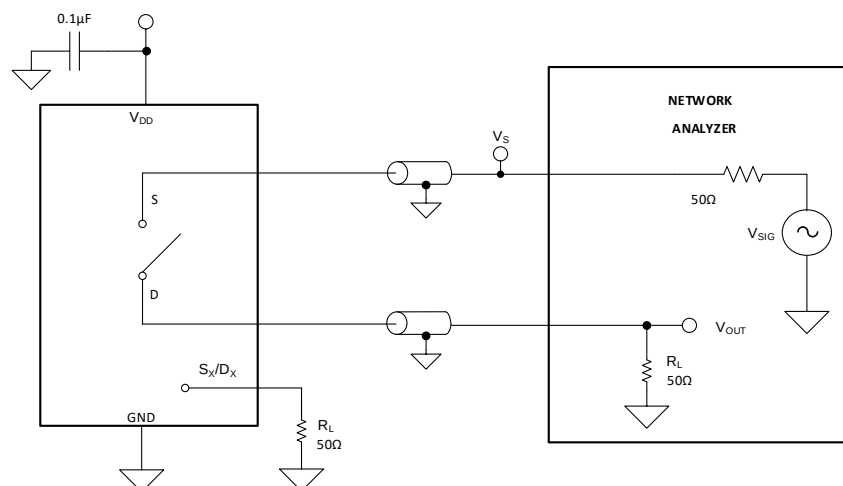

Figure 14. Off Isolation Measurement Setup
Off isolation is defined as the ratio of the signal at the drain pin (D) of the device when a signal is applied to the source pin (S_x) of an off-channel. Figure 14 shows the setup used to measure, and the equation to compute off isolation.